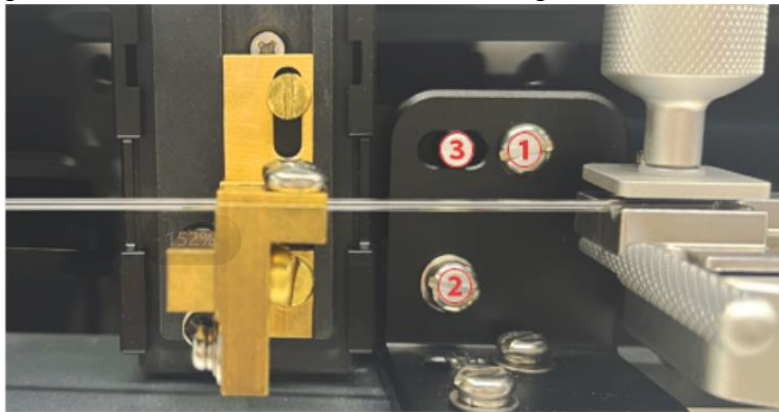

Figure 6-10
11) If the glass is not vertically centered, loosen the screw ① and turn the screw ② to finely adjust vertically until the glass is centered in the filament, as shown in Figure 6-10.